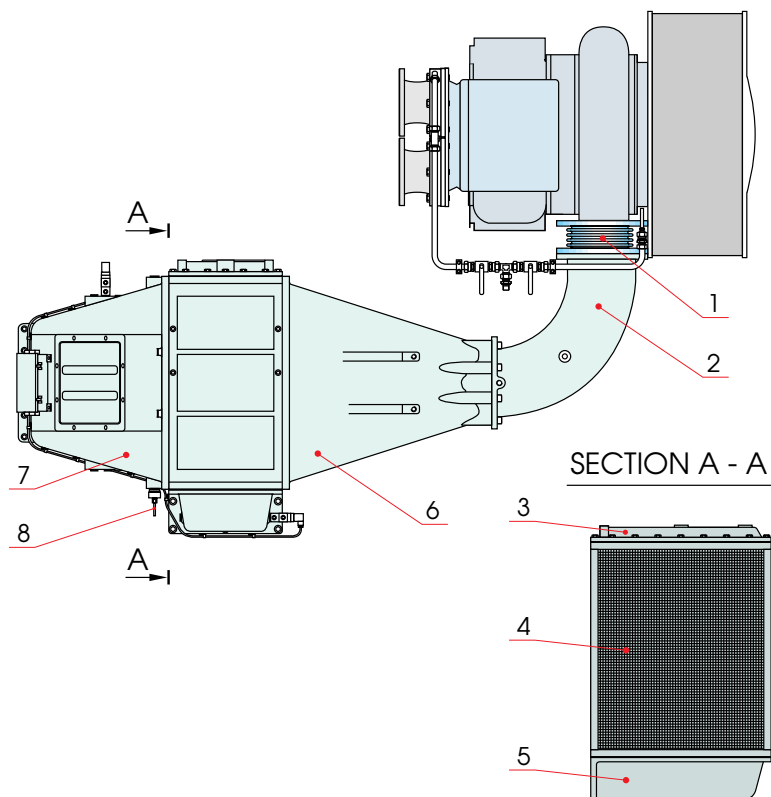

Fig 15-1
- 2 Remove the bellows (1)** between turbocharger(s) and air cooler housing, see Fig 15-1.